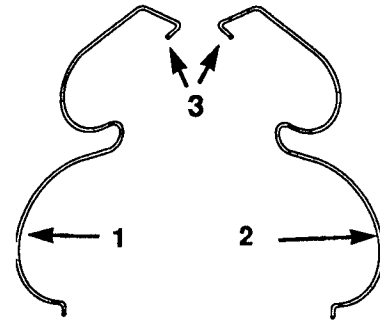

Figure 97
- A Identify the left and right hold-down springs (Fig. 97).